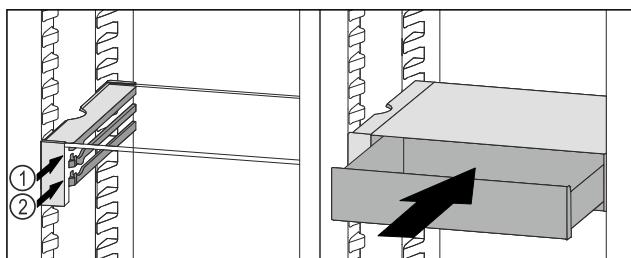

Fig. 91
- ▶ Place the VarioSafe drawer behind the stoppers on desired rib Fig. 91 (1) or Fig. 91 (2).